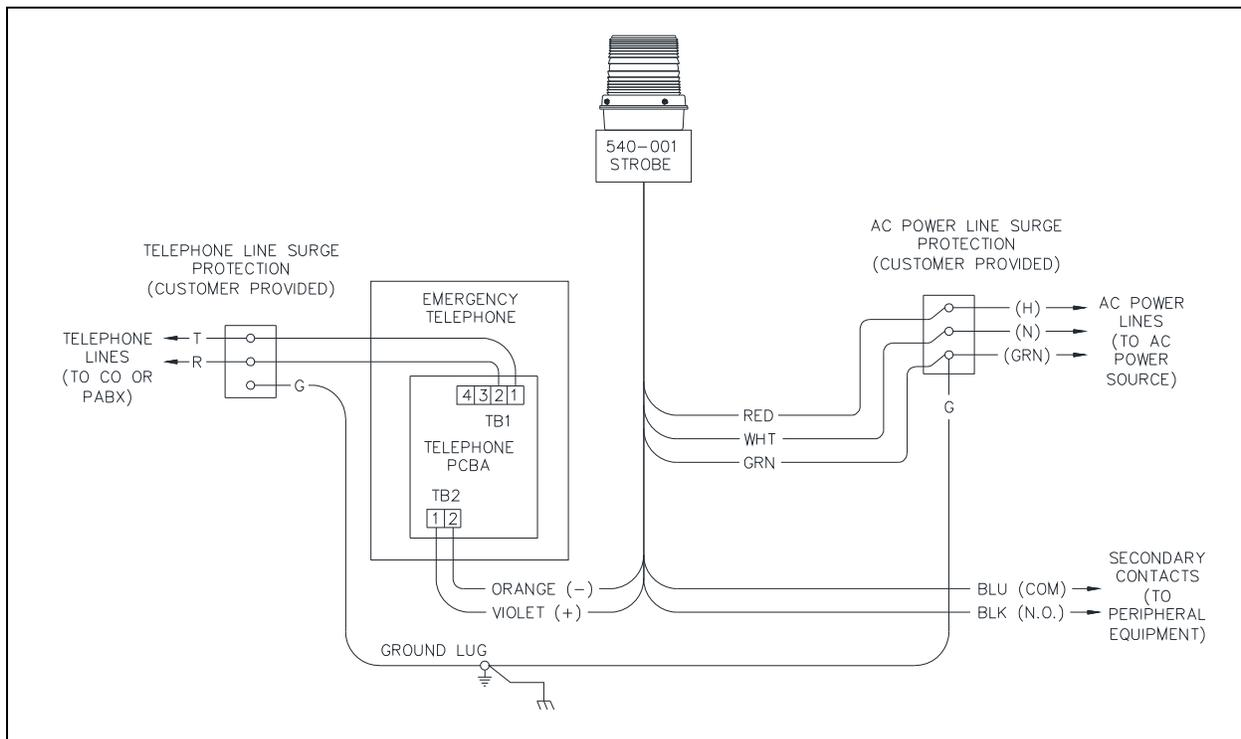

Figure 9. Interconnection Diagram with AC-Powered Strobe
3. Refer to GAI-Tronics Pub. 42004-499 or 42004-437 for detailed strobe installation instructions. Pay careful attention to the wire colors for correct wiring. Refer to the following section and Figure 9 for general wiring instructions.
For all component wiring, refer to the specific equipment manual and the interconnection diagram shown in Figure 9.
All wiring connections should now be complete, with the exception of the tower panel light and strobe wire connections to the incoming power lines. All connections must be made in accordance with the National Electrical Code (NEC) in the United States or the Canadian Electrical Codes (CEC) in Canada. Install the power conductors per Figure 9.